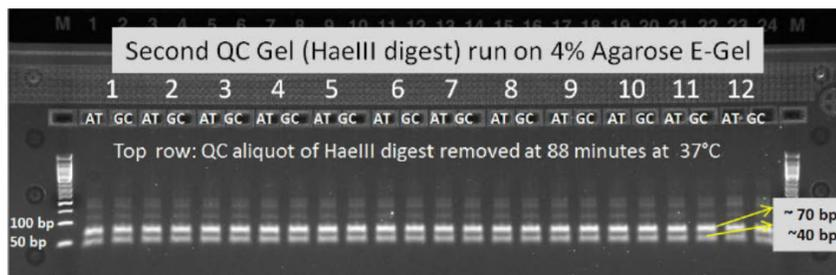

Figure 25 Example of a successful Second QC Gel.
- a. The HAEIII product sample wells have a predominant pattern of double bands at 40 bp and 70 bp. These double bands indicate that the 2nd PCR reaction and the HaeIII digestion were successful. (Figure 25.)
If the Second QC Gel image matches Figure 25, proceed to the following step. (“Complete the OncoScan HAEIII thermal cycler protocol” on page 89).
If the Second QC Gel image does not match Figure 25 and has a distinct band at 120 bp, **STOP!** Do not proceed to “Stage 5: Hybridization”. See Appendix F, “Troubleshooting the OncoScan™ CNV Plus Assay”.